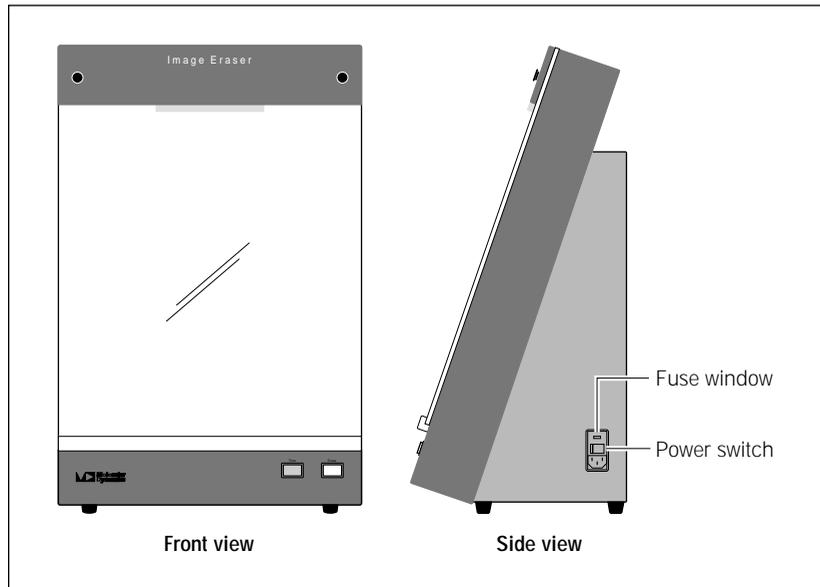

Figure 11-1. The Image Eraser.
1. Turn off the Image Eraser and disconnect the power cord (figure 11-1).
You can use the Image Eraser with either a 220–240 V (230 V) power source or a 110–120 V (115 V) power source. The selected operating voltage of the Image Eraser appears in the fuse window on the right side of the eraser, next to the power switch (figure 11-1).
9. Reconnect the power cord and turn on the Image Eraser (figure 11-1).